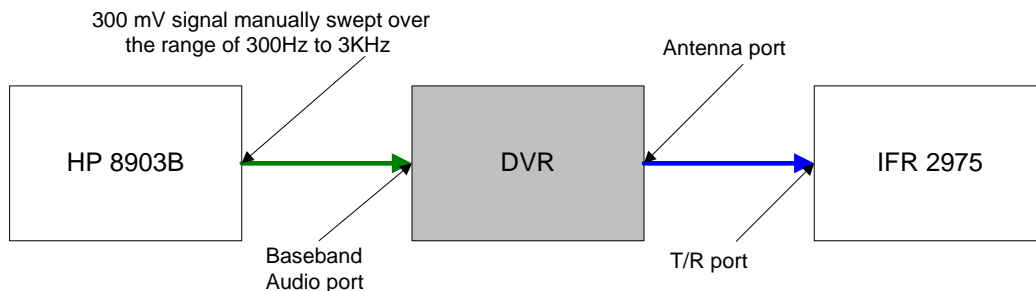

Figure 5: Block Diagram of Transmitter Frequency Response Test
4. Configure the IFR 2975 to demodulate the RF transmission received from the DVR. Figure 5 illustrates the equipment configuration.